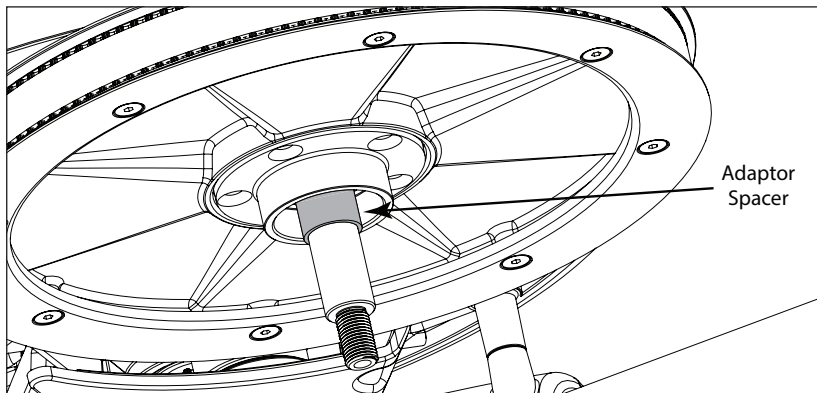

FIGURE 3.3
6. Before proceeding make sure that the adaptor spacer is still present on the shaft in the hub recess. The adaptor spacer slides freely on the shaft and may have slid out during removal of the cassette adaptor. (Figure 3.3)